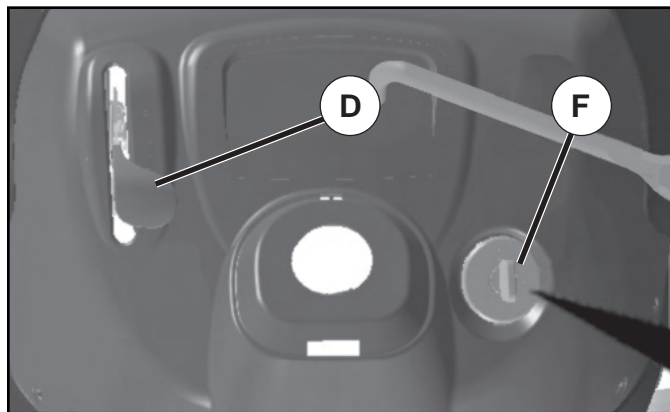

Fig. 7
- Move throttle control (D) to fast position.
- Turn ignition key (F) to "STOP" position and remove key. Always remove key when leaving tractor to prevent unauthorized use.
### TO USE THROTTLE CONTROL (D) (See Fig. 7)